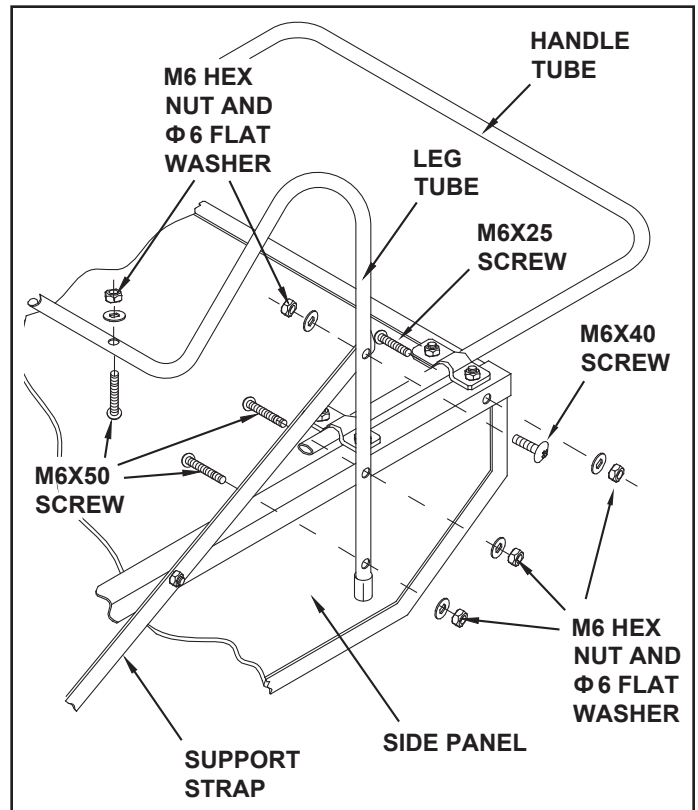

FIGURE 11
17. Insert a M6X25 screw through the hole at the rear of each side panel and the hole at the rear of each side angle. Secure with M6 flat washers and M6 hex nuts, making only finger tight at this time. See figure 11.
18. Place the tube caps on the ends of the “W” shaped leg tube. See figure 11.
19. With the cart still upside down, assemble the leg tube to the bottom of the cart. Line up the two holes in the center of the leg tube with the holes in the bottom of the cart. Secure the leg tube to the bottom of the cart with two M6X50 screws, M6 flat washers and M6 hex nuts. Make only finger tight at this time. See figure 11.
20. Attach the leg tube to the side panels with four M6 x50 screws, M6 flat washers and M6 hex nuts. Make only finger tight at this time. See figure 11.
21. Fasten the support straps to the leg tube with two M6X40 screws, M6 flat washers and M6 hex nuts. See figure 11.